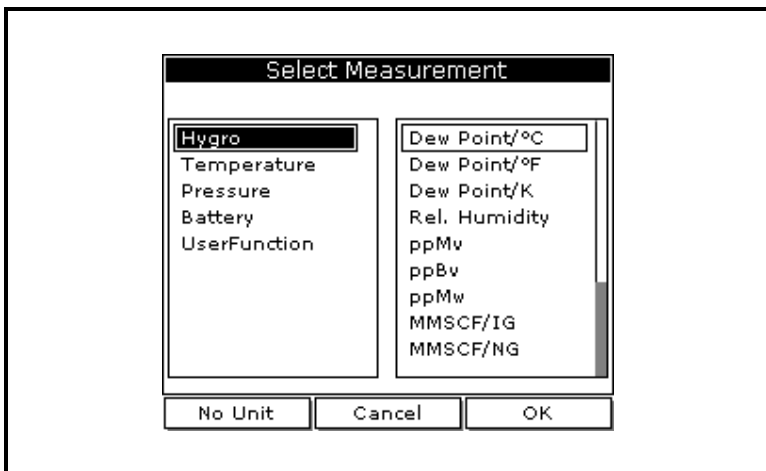

Figure 1-7: The Select Measurement Window
2. Use the arrow keys to scroll to **Measurement** and press [ENTER]. The screen appears similar to Figure 1-7 below. The left column displays the five measurement types and the right column displays the measurement units.